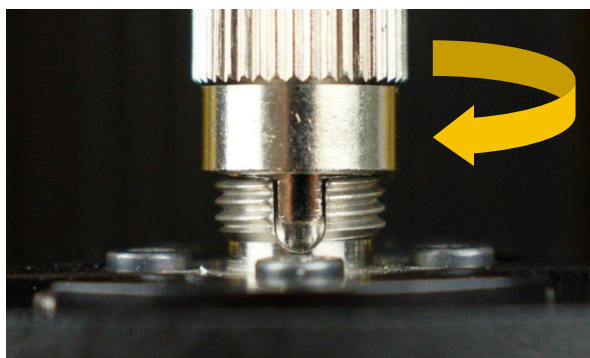

Figure 14. Reconnect Delivery Fiber to Translation Stage.
7. Reconnect Delivery Fiber, making sure the connector key is properly positioned in the Delivery Fiber. Mount and tighten by turning the nut clockwise (see Figure 14).